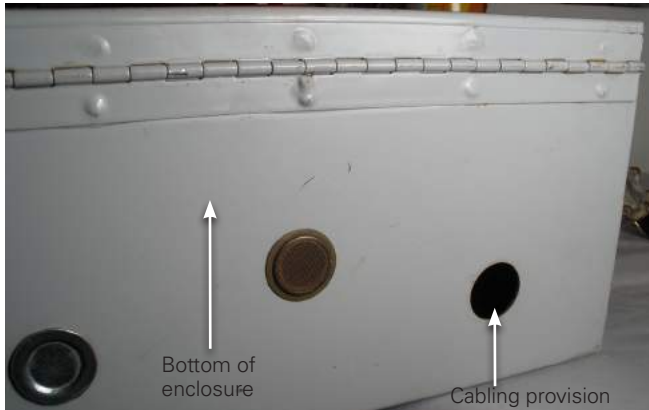

Figure 29. Control enclosure bottom access.
- A 1-1/8" diameter hole in the bottom of the control box is required. If there is a knockout, remove it. If a hole provision is not provided, cut a hole using a hole saw. See Figure 29.